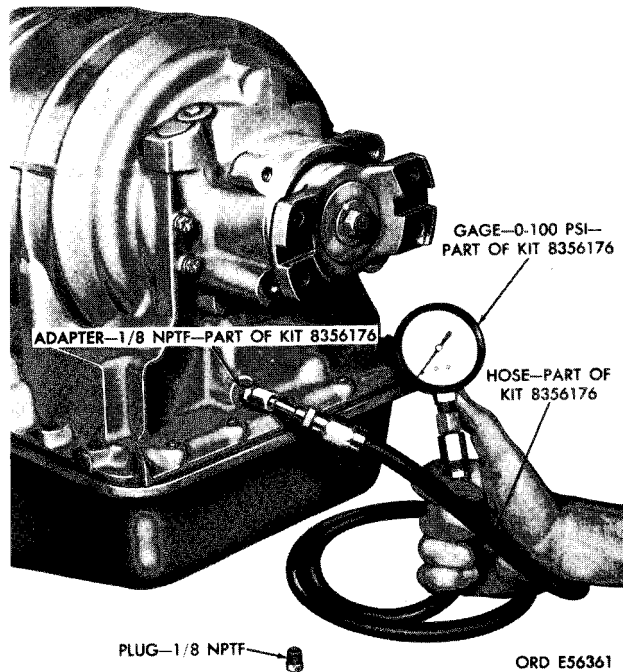

Figure 5-144. Pressure gage attached to $\frac{1}{8}$ NPTF pressure check point (gage, adapter, and hose are part of kit 4910-572-8612 (8356176)).
(3) The 0-100 psi gage, hose, and fittings from oil gage kit 4910-572-8612, and the method of attaching are shown in figure 5-144.